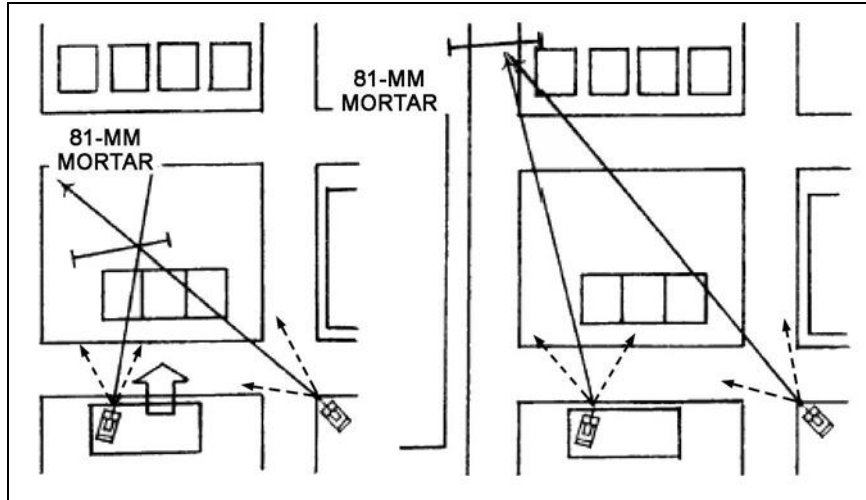

Figure E-7. Isolation of a building and shifting of fires.
g. Isolation of a Building. To isolate a building, the BFVs take an overwatch position (Figure E-7). They fire the 25-mm gun and 7.62-mm coax machine gun. They adjust indirect fire to suppress enemy troops in the building and in nearby buildings who can fire at the assault element.